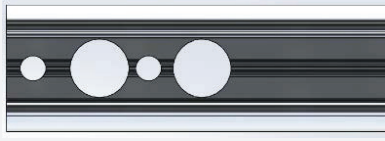

Figure 4: Wire routing and finishing tip holes. Do not apply screw
- Channel – Remove the light extrusion from the channel if already assembled. If the channel selected has adhesive, determine the required mounting position of the light and peel away the adhesive backer. Apply the channel to the mount location and apply pressure evenly throughout the adhered surface for at least 30 seconds. If adhesive is the only method of securing channel, leave the channel mounted for 24 hours before fastening the light extrusion. Apply screws into the pre-drilled holes inside of the channel for permanent fixturing. The holes located nearest each end of the channel are meant for wire routing and finishing tips (see Figure 4). Do not apply screws to these holes. Drill a hole through the mounting surface in the proper location for wire routing if necessary. Make sure that if there are finishing tips and the wires are routed straight out of the end of the extrusion, the wire routing hole will not interfere with the screw mounting of the finishing tip. Press or slide the light extrusion into the channel, Apply finishing tips to channel (if applicable) routing wires through if necessary.